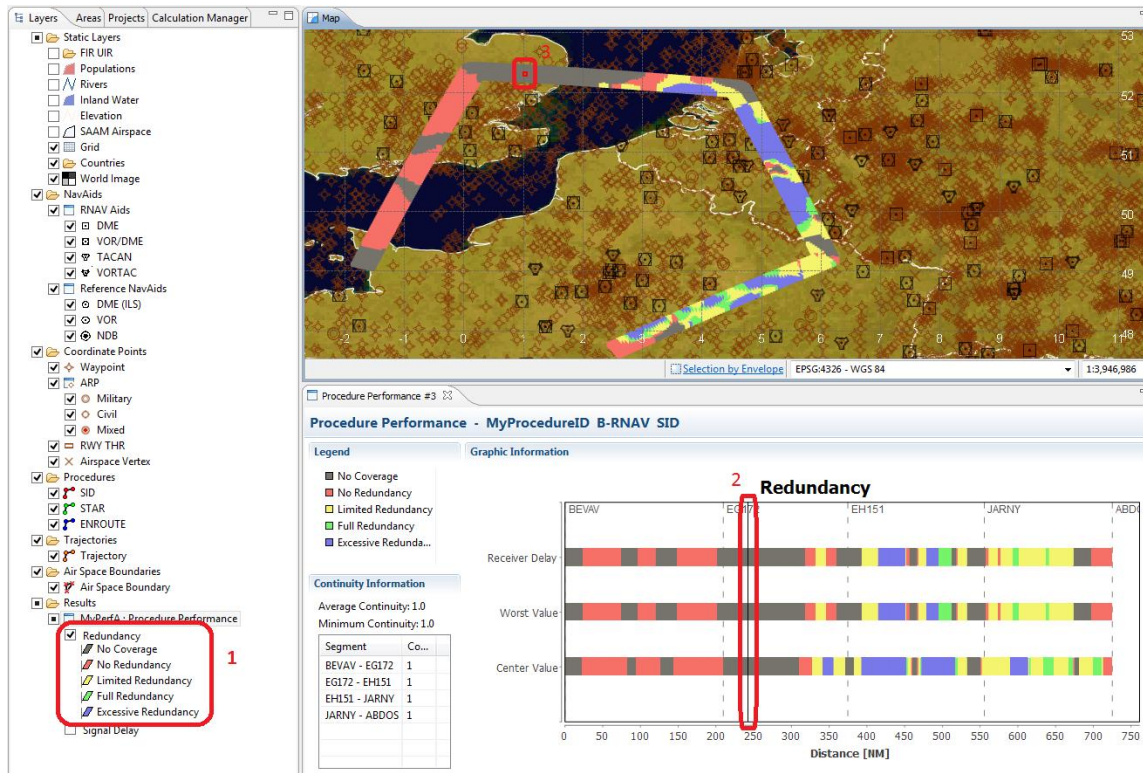

Figure 179: Redundancy sample
This layer is essentially the result of crossing the procedure corridor limits (Figure 179). In Figure 179, notice the legend (1) with signal delay selected and the different types of coverage. Please note that for usability purposes, on the "Graphic Information" section, the redundancy bar (2) matches the part of the procedure that is displayed on the map (3).